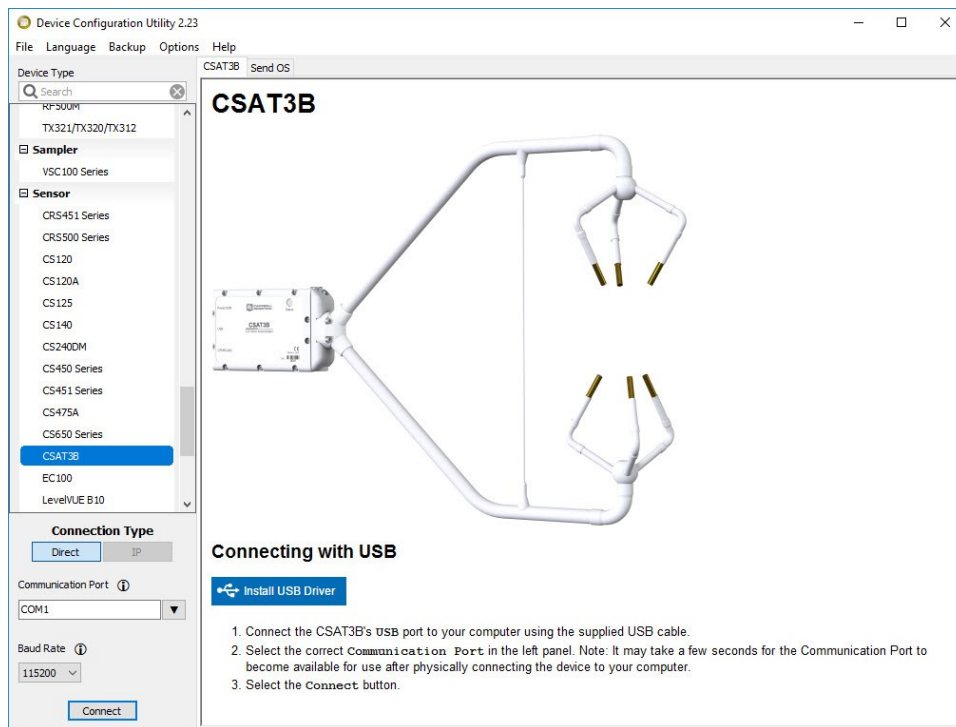

Figure 6-1. Connecting CSAT3BH using *Device Configuration Utility*
4. From the left side of the main screen, select the CSAT3B (note that there is no CSAT3BH selection, since the CSAT3BH functions like a CSAT3B when communicating with *Device Configuration Utility*) among the list of sensors. Select the appropriate communication port and baud rate (refer to the left side of Figure 6-1 (p. 25)).
5. If this is the first time the computer has connected to a CSAT3BH, and depending on the computer settings, the USB driver may need to be manually installed. To do this, make sure the computer is connected to the internet and click **install the USB driver** link as shown in Figure 6-1 (p. 25)).